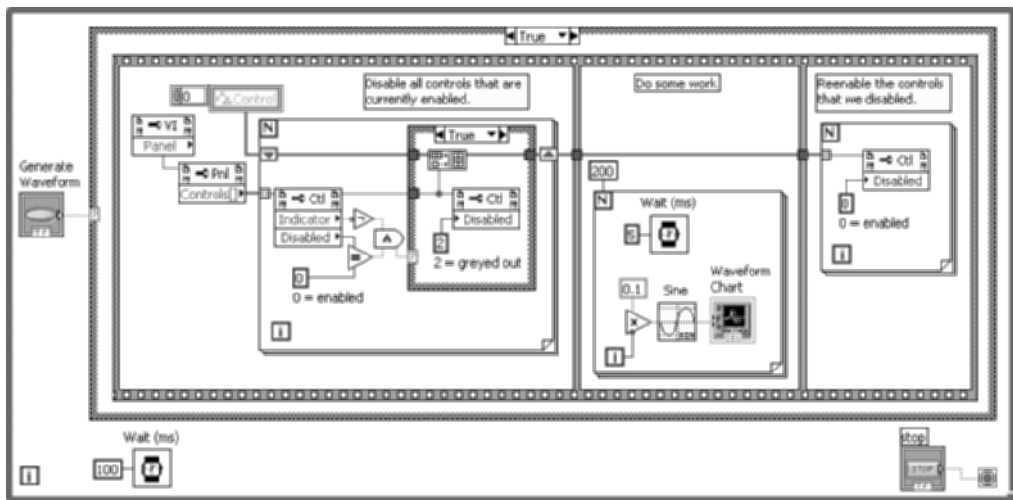

Figure 15.57
1. Open **Disable Controls While Busy.vi** and save a copy as **Disable All Controls While Busy.vi**. Modify its block diagram so that the code inside the **While Loop** looks like Figure 15.57 (the controls outside the **While Loop** are not shown in the illustration).